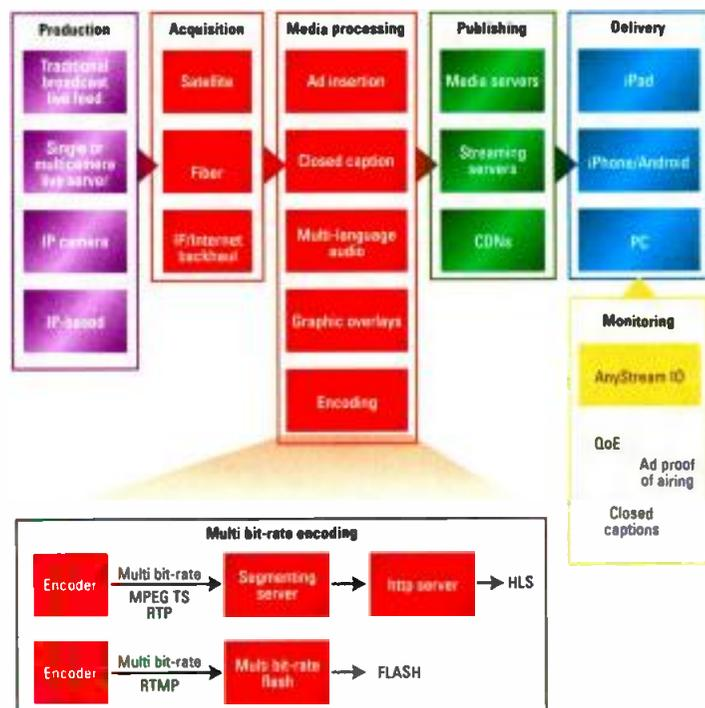

Figure 1. Shown here is the live stream workflow of AnyStream IQ, which provides proof of advertising and web caption compliance.
- Deliver the content to the buffer store or to the content delivery network. (See Figure 1.)
Figure 1. Workflows have to be automated, making intelligent decisions based on the metadata to determine what happens to the material. The workflow engine must be capable of rapid configuration by the user to meet developing needs.
recorded stream. With its cut/clip feature, users can make frame-accurate in-and-out points on video and share the clip for either compliance or proof-of-airing purposes. Figure 1 shows the live stream workflow.